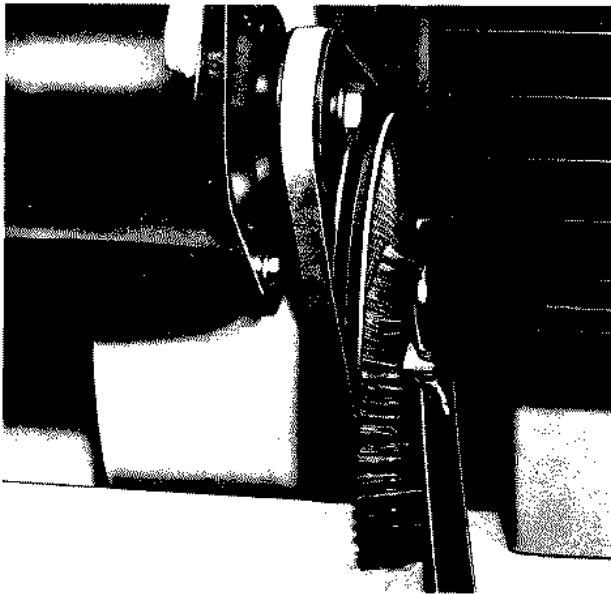

Figure 14
5. Clean flywheel screen. Use a brush similar to a wire brush or an automotive snow brush. Check and clean regularly. Clean engine fins at same time with an air hose. Clean screen from R.H. side of tractor. Clean as far as you can reach, turn engine over until part of screen which is not cleaned is exposed and finish cleaning. See Figure 14. Remove spark plug wire to avoid accidental starts.
ENGINE COOLING SCREEN - Check and clean engine air cooling screen. Use a narrow wire brush or a brush similar to an automotive snow brush. See Figure 14.